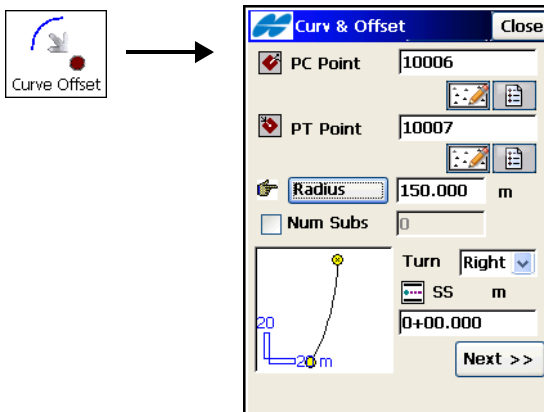

Figure 10-19. Curve & Offset
1. Define the curve by selecting the starting PC point of the arc, the radius parameters of the curve, the point of tangency and the direction of turn, relative to the PC Point. If needed, select the starting station (chainage) and the number of subdivisions to divide the curve (Figure 10-19). Tap **Next**.